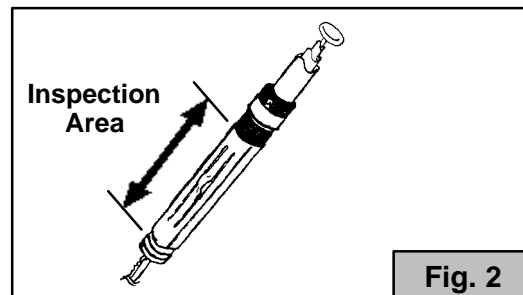

Fig. 2
2. Remove the antenna mast and inspect the base of the mast for corrosion and damage (Fig. 2). Clean with 1500 grit sandpaper.